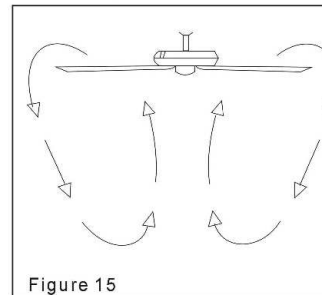

Figure 15
**Cool weather-** (Reverse) An upward airflow moves warm air off the ceiling area as shown in Figure 15. This allows you to set your heating unit on a lower setting without affecting your comfort.